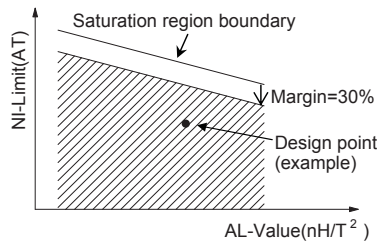

Figure 52. Example of NI-Limit versus AL-Value characteristics
In transformer design, AL-value and N_p must be set in a way that the ferrite core does not saturate. Here, use ampere turn value (AT), the result of $I_{\text{DP(DLY)}} \times N_p$ and the graph of NI-Limit (AT) versus AL-value (figure 52 is an example of it). NI-Limit is the limit that the ampere turn value should not exceed; otherwise the core saturates. So use the graph and equation 24, which expresses the relationship of L_p , AL-value, and N_p to appropriately set these values. In addition, target 30% below the NI-Limit curve as a design margin in consideration of temperature effects and other variations, as expressed by the formulas below: